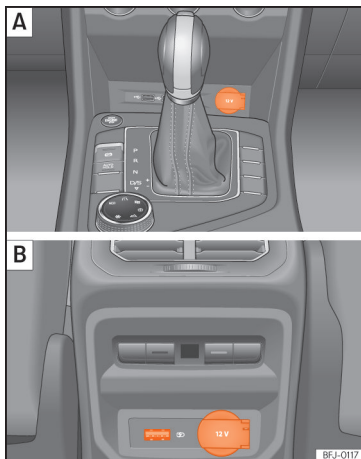
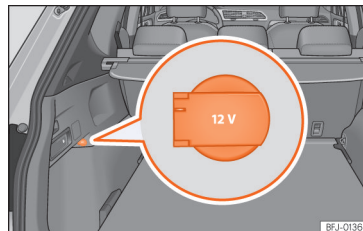

Fig. 183 **A** Centre console: front 12 volt power socket. **B** Centre console, rear section: USB and 12-volt power socket.
Fig. 184 Detailed view of the side trim in the boot: 12-volt power socket.
- Lift the power socket cover » **Fig. 183**, » **Fig. 184**.
These USB ports are located at the rear of the console, between the front seats » **Fig. 183 B**. These connectors can work at a maximum power of up to 10.5 W per port. »